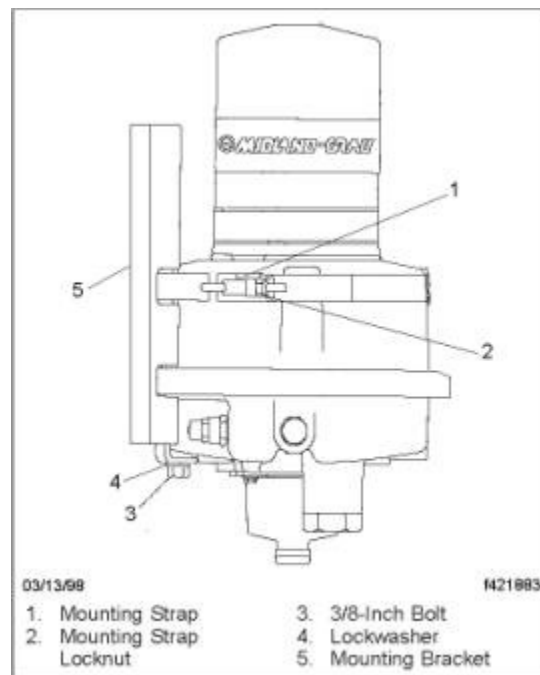

Figure 1
2. Insert the 3/8 inch bolt and lock washer into the bottom of the dryer and tighten the bolt **20 to 25 lbf · ft (27 to 34 N·m)**. See Fig. 1 above.